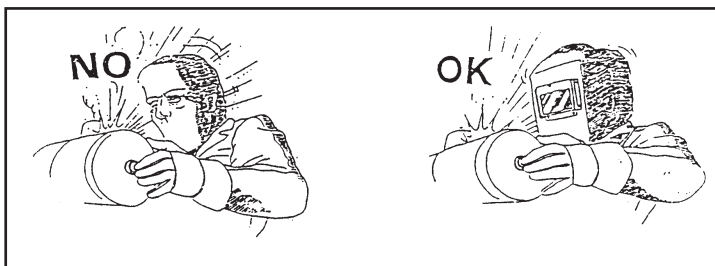

Figure 2
**Warning:** Never stare at an electric arc without suitable eye protection (Fig. 2).